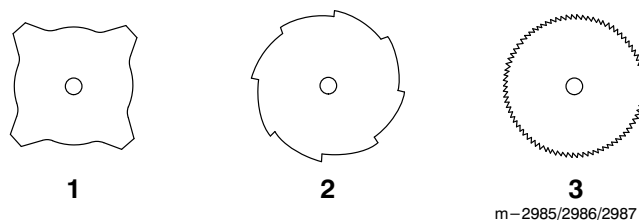

Figure 27
3. **10" Brushcutter Blades**—four-tooth, eight-tooth and 80-tooth blades are available for various cutting conditions (Fig. 27).